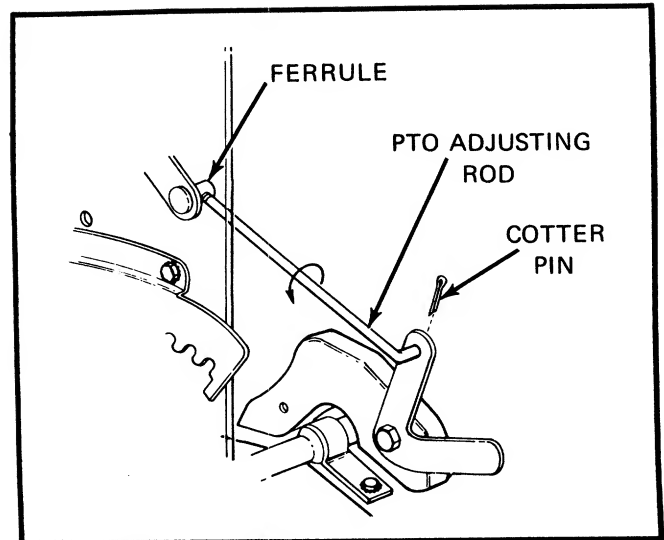

FIGURE 26. PTO ADJUSTMENT
- Step 4. Replace the cotter-pin. See Figure 26.